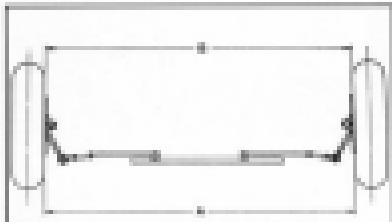

Fig. 111. Front Wheel Toe-in.
Toe-in is the setting or adjustment of the front wheels so that the distance between them is less at the front than at the rear. (See Fig. 111.)
2. With tram bar approximately 10" from the floor, place it between front tires at point "A" as shown in Fig. 111. Set bar on zero.
The distance "B" between the front of the front tires should be 1/16" to 1/8" less than the distance "A" between the rear of the front tires, as shown in Fig. 111.